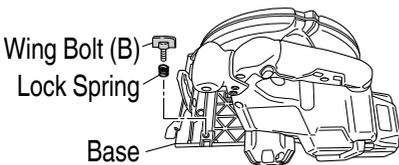

Fig. 21
3. Regulating the guide (Rip fence) (Fig. 21, 22)